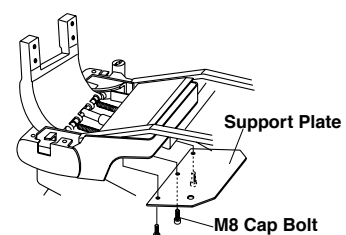

Fig.6-4 Removing Support Plate
- D. Remove 3 x M8 cap bolts and remove the black support plate from under the flange. (**Fig.6-4**)